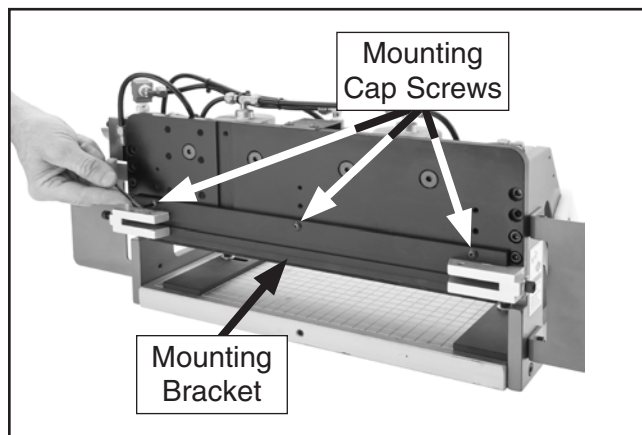

Figure 12. Installing template mounting bracket.
Secure the template mounting bracket to the cylinder plate with (3) M5-.8 x 16 button head cap screws, as shown in **Figure 12**.